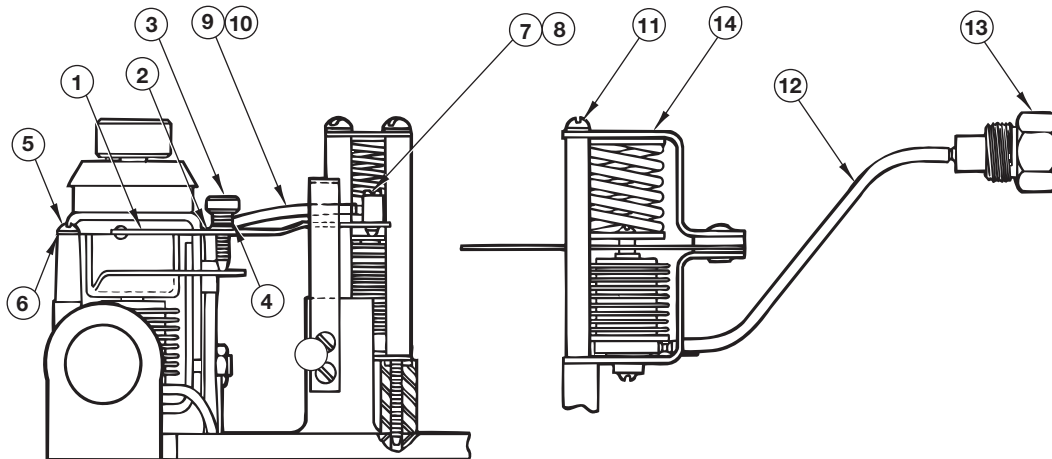

Figure 42
3.3.8 Receiver Controller Parts (See Figure 42)
3.3.8.1 Receiver Controller Replacement Assemblies (See Figure 42)